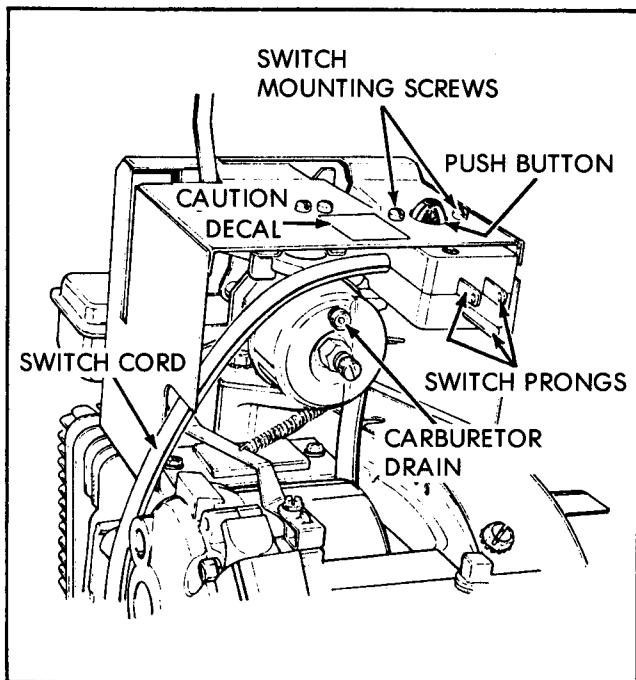

FIGURE 4
8. Route the switch cord around the rear of the engine. Insert the switch box into the carburetor cover so that the push button comes through the large hole. Insert the two mounting screws into the switch box and tighten them securely. (See Figure 4.)
9. Check to be sure that the switch box cord is not bumping the carburetor bowl drain. (See Figure 4.)
10. Attach caution decal to heater box near push button. (See Figure 4.)
1. Select power cord from kit and attach female end to prongs provided on switch box. (See Figure 4.)
4. STAND CLEAR and depress starting switch (Figure 4). As soon as engine starts, release switch.